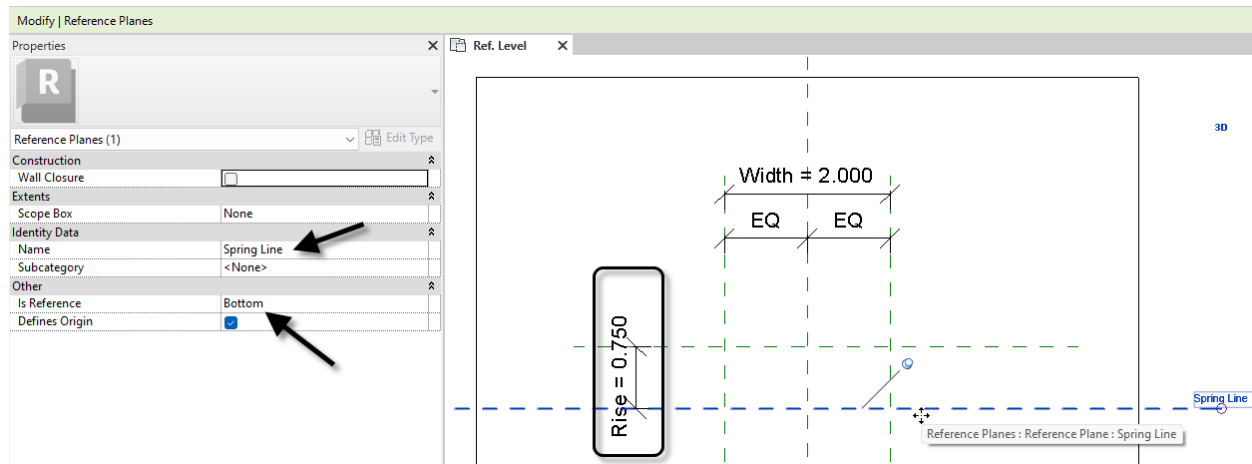

Figure 17—Configure the reference planes
7. Flex the family to ensure everything is working. Set the Rise to: **0.750** (see Figure 17).